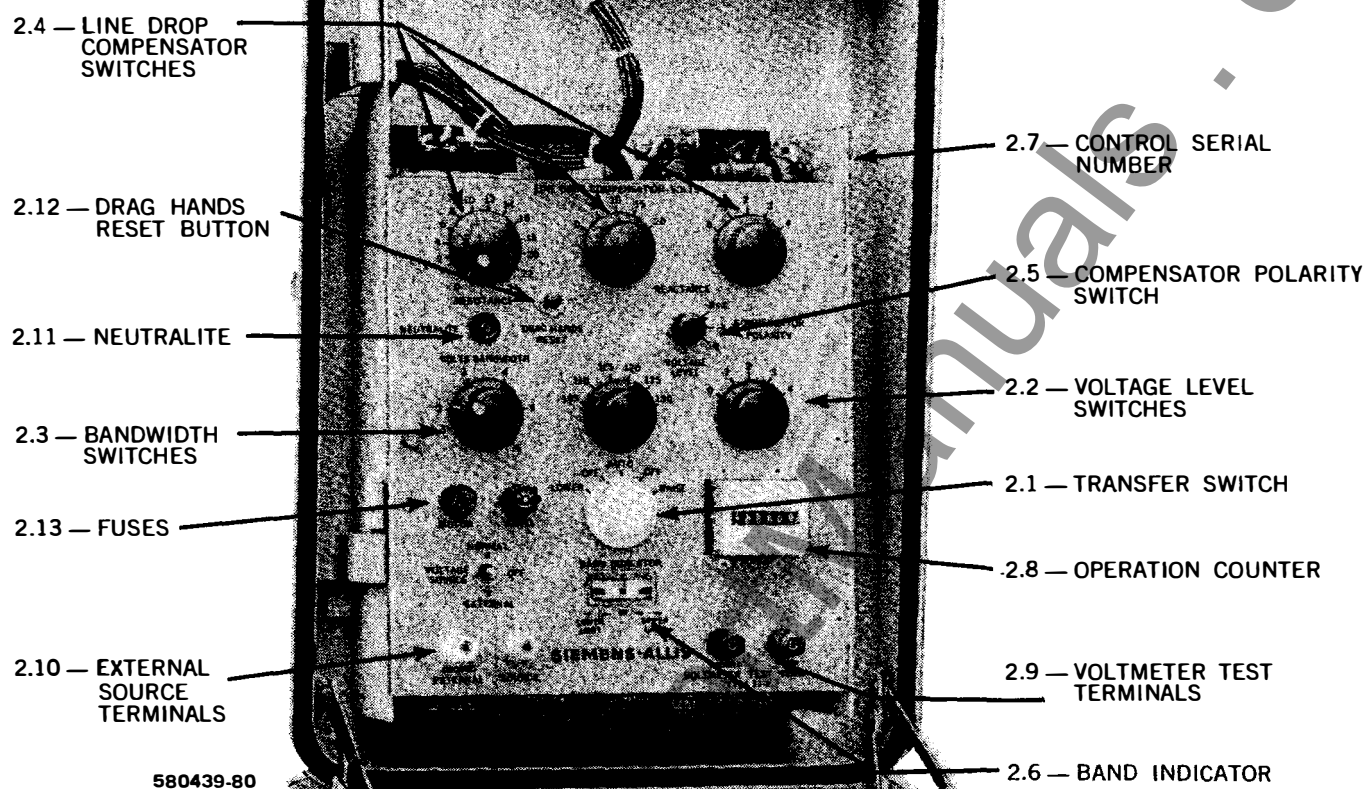

Fig. 3 Faceplate switches.
2.0 CONTROL FACEPLATE INFORMATION (Refer to Figure 3)